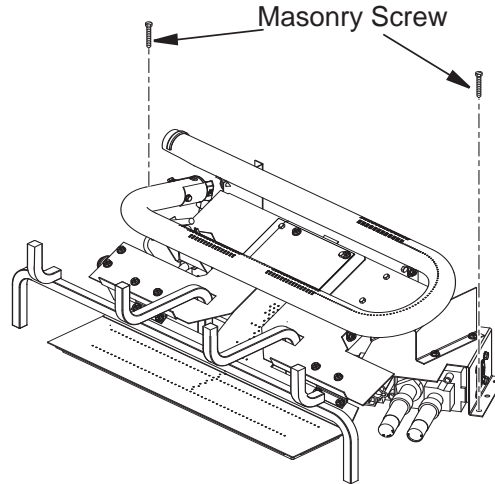

Figure 12 - Attaching Base to Fireplace Floor
3. Mark screw locations through holes in front panel of base (see **Figure 12**). If installing in a brick-bottom fireplace, mark screw locations in mortar joint of bricks.
6. Attach base, through holes in back side panels of base, to fireplace floor using masonry screws provided in hardware package (see **Figure 12**).